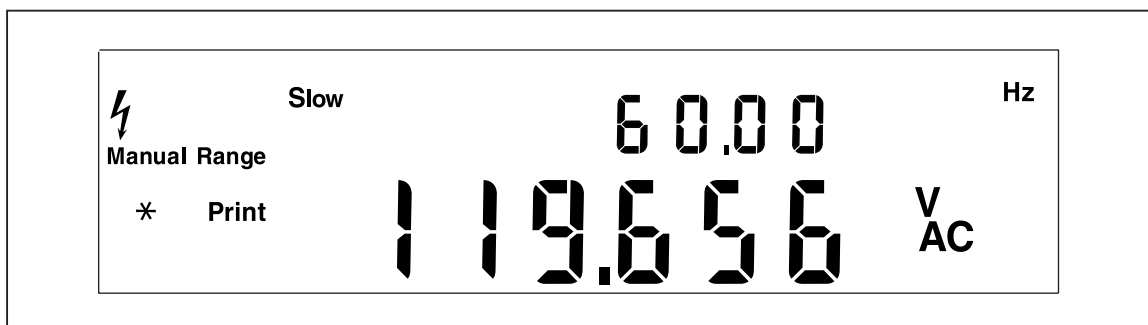

Figure A-1. Example of Dual Display Showing Volts AC and Frequency
5. Insert the test lead probes into a wall socket. The display will appear similar to FigureA-1. The actual display depends on the local power supply.